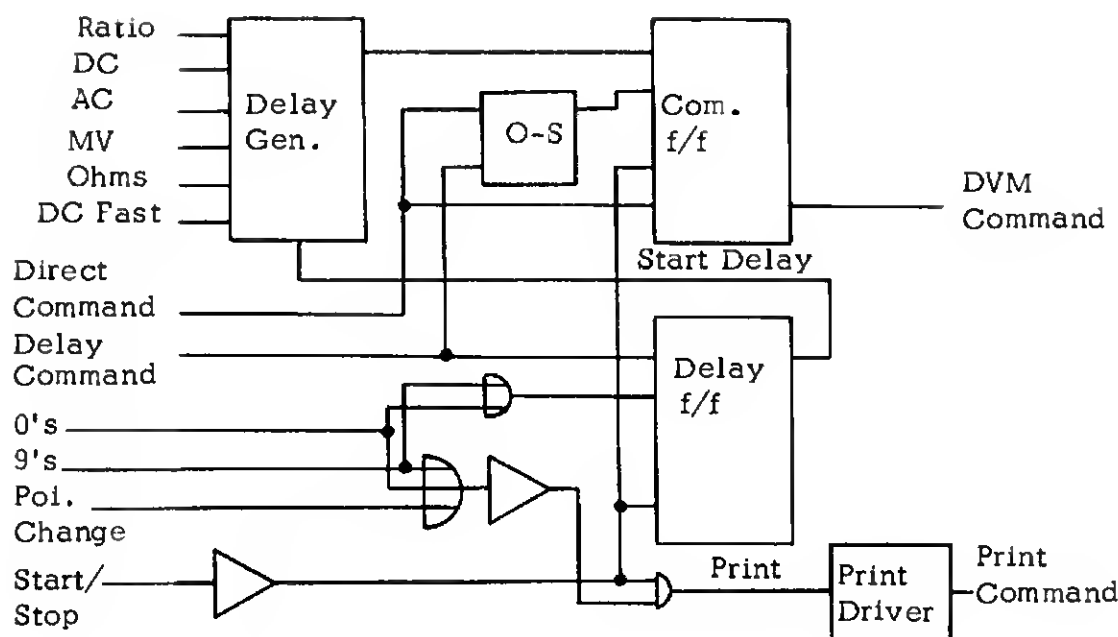
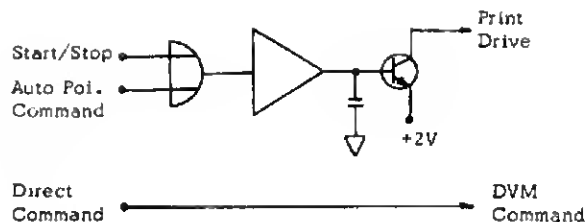

Figure 3.4. Block Diagram - Delay Circuit
Figure 3.5. Print Command Logic
3.20. A simplified diagram of the Command Logic and delay circuitry is shown in figure 3.4. This general configuration is used with Models 77 and 78. A simplified block diagram of the Print Command logic used in the Model 76 options is shown in figure 3.5.